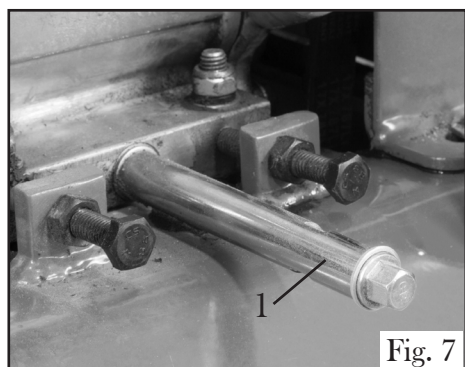

Fig. 7
2. Use an open-end wrench to securely hold the oil drain plug in place. Then, using a hex wrench, unscrew the oil drain plug (Fig. 7 - 1). Allow all the oil to drain from the engine.